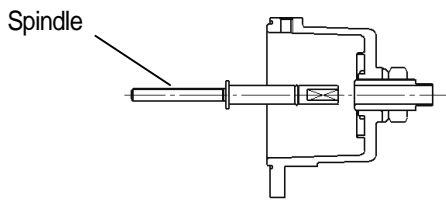

Fig.22
(4) Remove a spindle from the bottom of the unit (Fig.22).